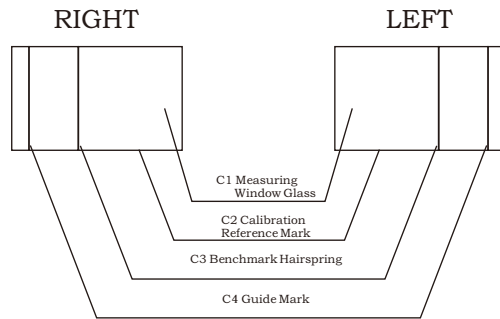

Fig.4
3.3 Viewed from the Measuring Window(as shown in Fig.4)